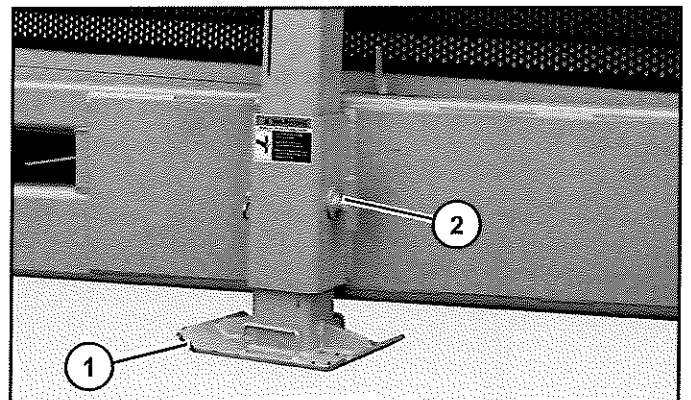

Figure 30
16. After the conveyor tail has been set in place on the pivot plate, raising the conveyor will lift the landing legs off the ground. Manually unpin the landing legs (Item 1), slide them up, and repin (Item 2) the landing legs to their highest point (Figure 30).